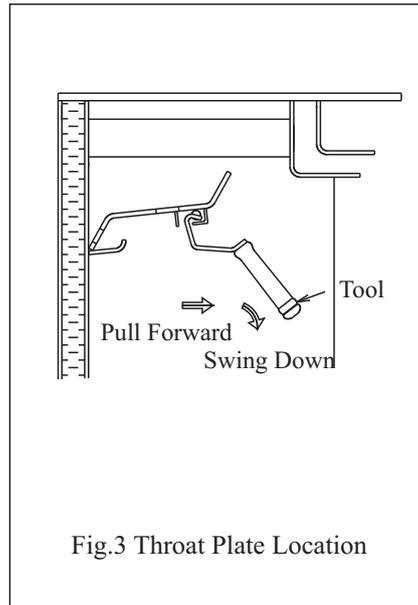

Fig.3 Throat Plate Location
The throat plate is lowered using the door opening tool. Slide the tool into the bracket from the side, pull the throat plate forward, and then lower it as shown in Fig. 3. Any sooty deposits should then be swept from the plate and into the fire.
In situations where it is not possible to sweep through the appliance the installer will have provided alternative means, such as a soot door. After sweeping the chimney the appliance flue outlet and the flue pipe connecting the stove to the chimney must be cleaned with a flue brush. After clearing any soot from within the stove, replace the throat plate (see Fig. 3), the front firebars, and side fireplates.
- b) the throat plate is fitted correctly (see Fig. 3.) and that it is not distorted.